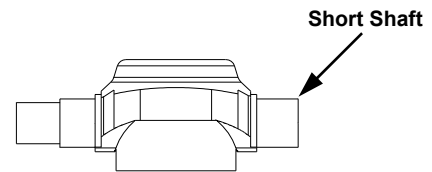

Figure 24. Swashplate/Pump Block Assembly
17. *Care must be taken to prevent the scaring or scratching of the center section sealing face during this step.* Insert the short shaft side of the swashplate/pump block assembly (Fig. 24) into the housing while simultaneously compressing the pistons in the block. NOTE: To assist in the installation of these components, insert the assembly until $\frac{3}{4}$ of the pump block is covered by the center section. Then slightly angle the trunnion shaft end away while pressing the short swashplate shaft into its pocket.